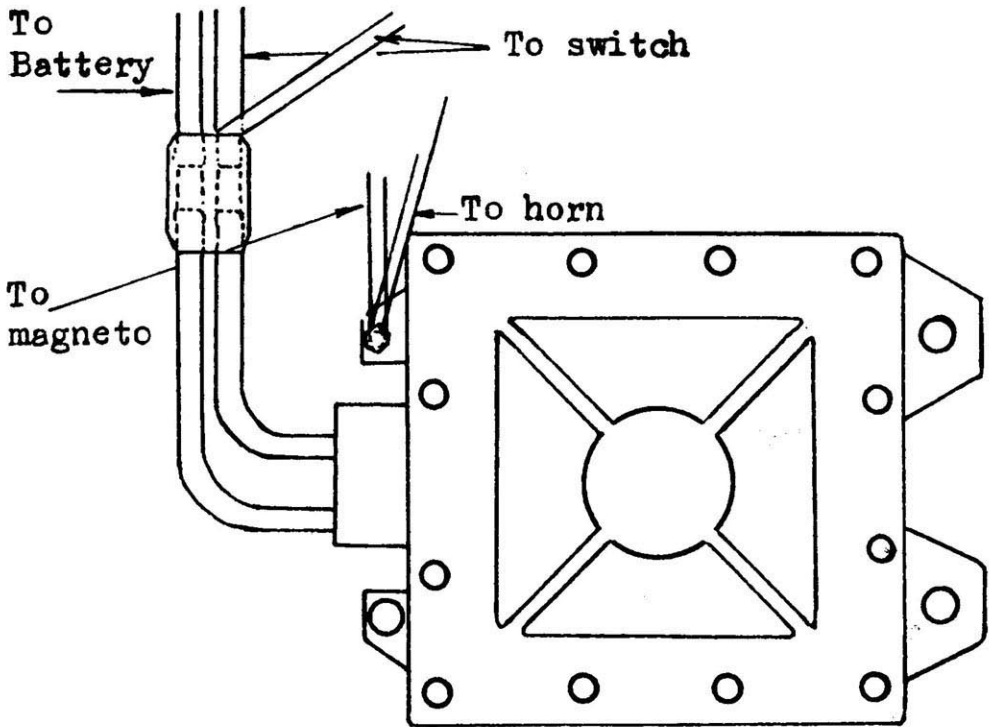

FIG. 16.
*Note:* The following system of wiring only applies to solo Vespas supplied with parking lights. It does not apply to Vespas supplied without parking light equipment or Vespa Commercial and Passenger sidecar models. (Fig. 16).